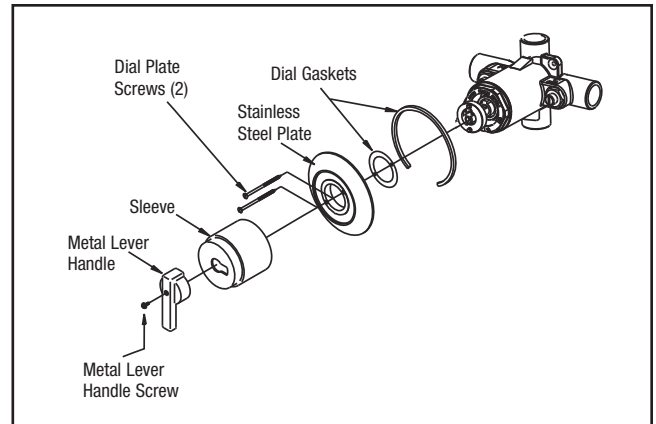

Figure 4: Round Stainless Steel Dial Plate
- After wall is completed, remove rough-in guide and attach dial assembly and handle to mixer body with the screws furnished (see Figure 4).